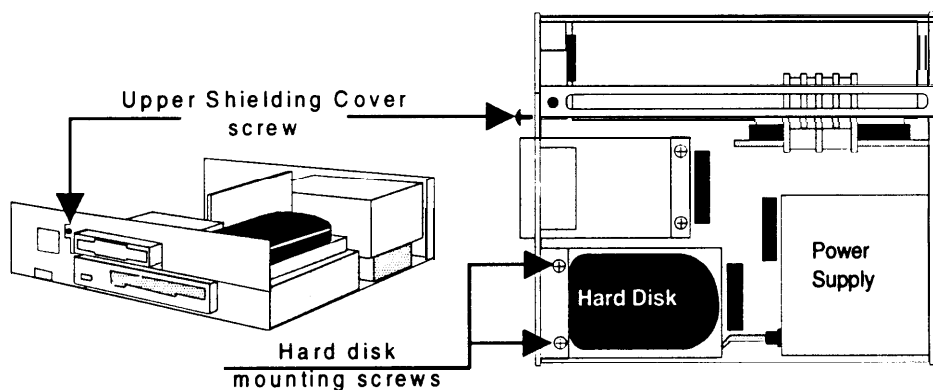

Figure 3-9. Master Controller II+ Internal Components
7. Locate the hard disk as shown in Figure 3-9.
8. Remove the two screws near the disk drive and one screw from the front as shown in Figure 3-9. Lift off the Upper Shielding Cover.
17. Line up the two screw holes near the hard disk as shown in Figure 3-9 and secure the hard disk drive in place with the screws removed earlier.